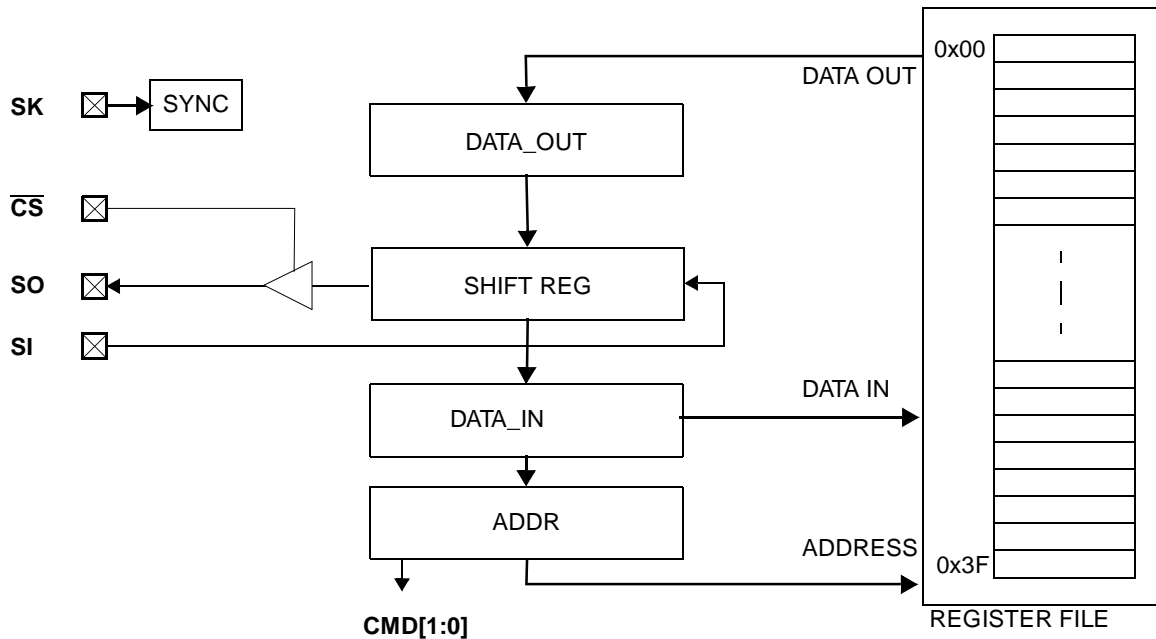

Figure 10. MICROWIRE Interface Block Diagram
The MICROWIRE/PLUS interface allows the USBN9602 to function as a peripheral of a CPU or microcontroller via a serial interface. This mode is selected by pulling the MODE1 pin high. The MICROWIRE/PLUS mode uses pins called chip select (\overline{CS}), serial clock (SK), serial data in (SI), and serial data out (SO), as shown in Figure 10.